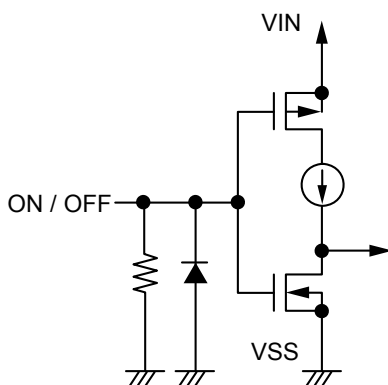

Figure 15 S-1312xxxH Series A / C Type
Note that the current consumption increases when a voltage of 0.25 V to $V_{IN} - 0.3$ V is applied to the ON / OFF pin. The ON / OFF pin is configured as shown in **Figure 15** and **Figure 16**.
*1. Note that the IC's current consumption increases as much as current flows into the pull-down resistor when the ON / OFF pin is connected to the VIN pin and the S-1312xxxH Series A / C type is operating (refer to **Figure 15**).